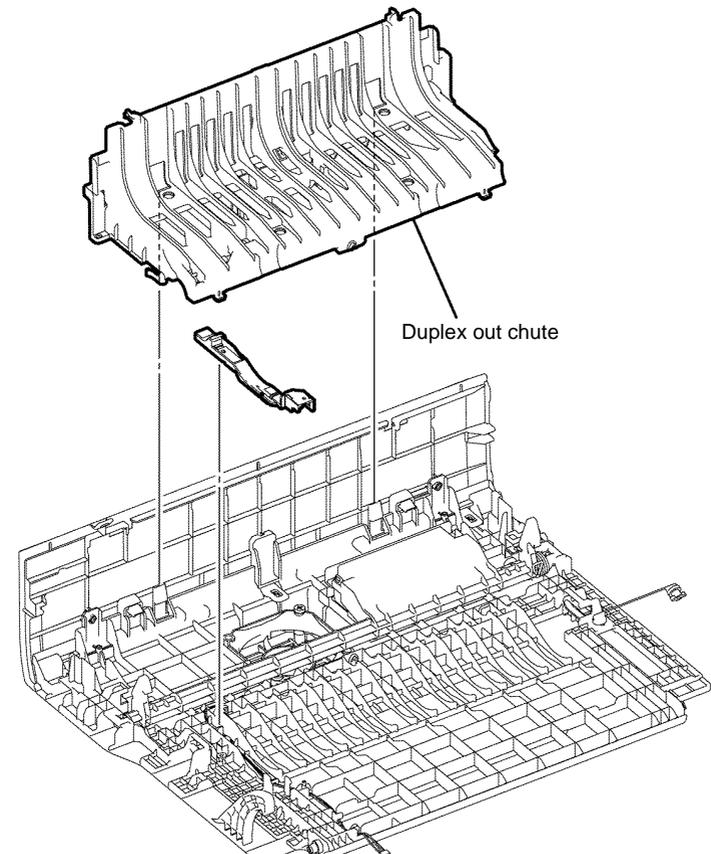

Figure 1 Duplex out chute removal
4. Release two hooks, then remove the harness guide, Figure 1.
5. Release the two hooks that fix the duplex out chute. Release the four bosses from the holes, then remove the duplex out chute, Figure 1.